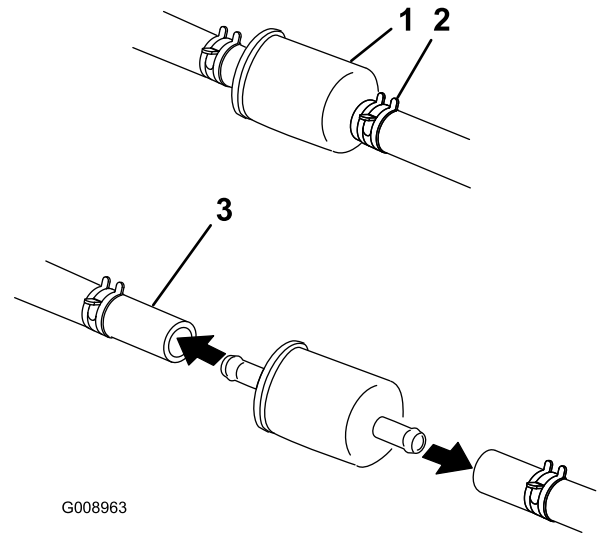

Figure 45
5. Squeeze the ends of the hose clamps together and slide them away from the filter (Figure 45).
7. Install a new filter and move the hose clamps close to the filter (Figure 45).